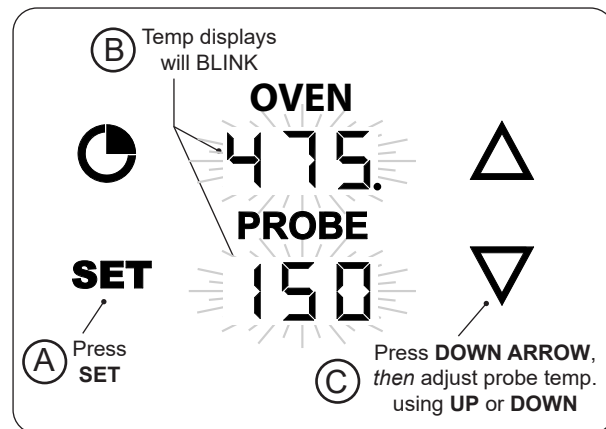

Fig. 40-2 Set probe temperature
1. With the thermometer **on** and the meat probe plugged in, press the **SET** button once. The OVEN and PROBE displays will blink. (While blinking, either area can be selected to enter their settings.) See Fig. 40-2, A and B.
2. Press the **DOWN ARROW** to select the probe settings, then you may use the up or down arrows to set the desired temp (Fig. 40-2, C).